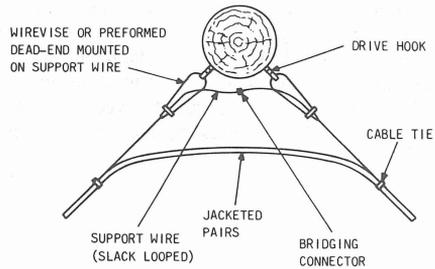
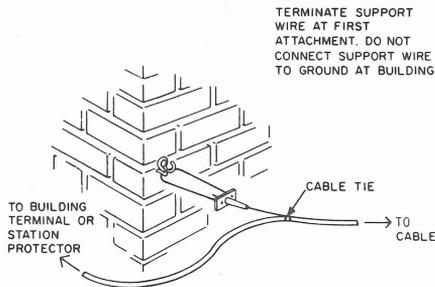

Fig. 35—Joining Support Wire With Bridging Connector
Fig. 36—Terminating Support Wire at First Attachment
6.02 Support wire must be continuous at all intermediate attachments. At pole attachments, span clamps, and building attachments in building-to-building spans, rejoin the support wire with a bridging connector (Fig. 35) if cut. Terminate the support wire at the building first attachment (Fig. 36).